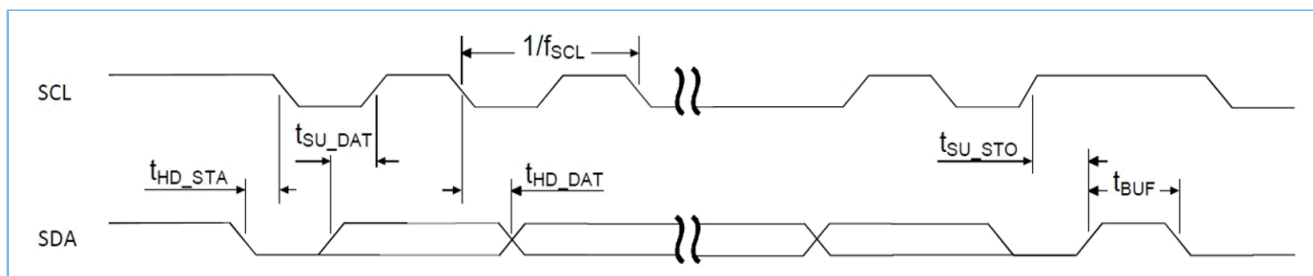

Figure 10-11 I2C timing diagram
- **Description:** This register controls the amount of time delay (in terms of number of clock periods) introduced in the rising edge of SCL - relative to SDA changing - when I2C services a read request in a slave-transmitter operation. The relevant I2C requirement is  $t_{SU\_STO}$  as detailed in the Figure 10-11. This register must be programmed with a value equal to or greater than 2.